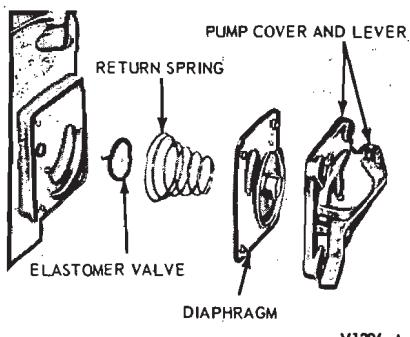

FIG. 14—Accelerating Pump Assembly
5. Remove the accelerating pump cover retaining screws. Remove the accelerating pump cover, diaphragm assembly and spring (Fig. 14).
8. Install the accelerating pump diaphragm return spring on the boss in the chamber (Fig. 14). Insert the diaphragm assembly in the cover and place the cover and diaphragm assembly into position on the main body. Install the cover screws.